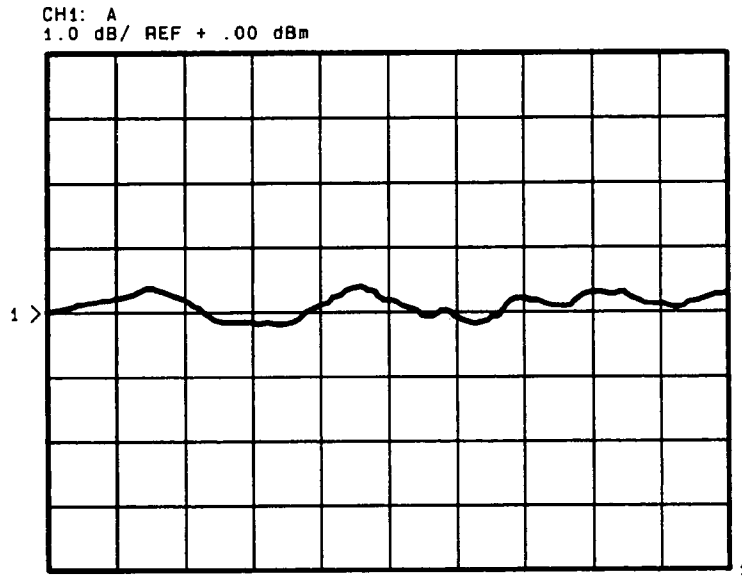

Figure 5-19. MEAS-MEM Trace before Adjustment of R67 - R60 (C1 - C8)
64. The trace now displayed on the HP 8757A is the error between the LIMIT LINES data and the swept response. It should resemble Figure 5-19.